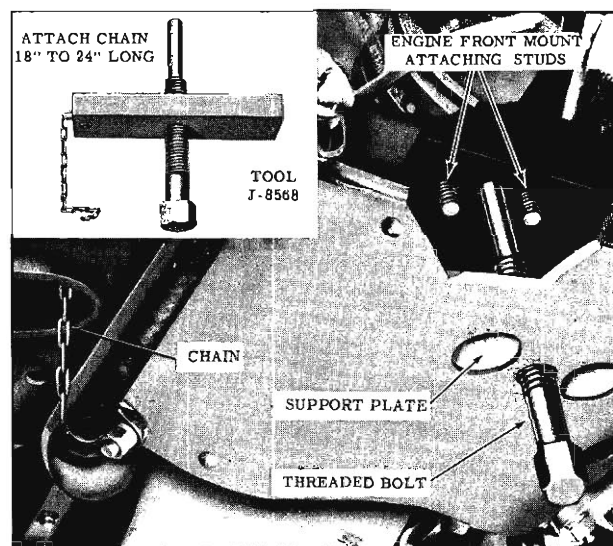

Fig. 3-21 Raising Front of Engine
NOTE: Attach a chain 18 to 24 inches long to Tool J-8568 to aid in positioning the Tool in and out of the front cross member. (Inset, Fig. 3-21)
- Insert the threaded bolt into the support plate. Rotate the threaded bolt until it contacts the engine front mount. (Fig. 3-21) Raise engine until proper clearance is obtained.